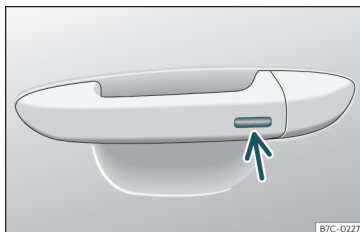

Fig. 91 Door handle: sensor surface.
- Press and hold the locking sensor surface >>> **Fig. 91** (arrow) on the door handle to close the sunroof. If you release the sensor surface, the closing movement stops.